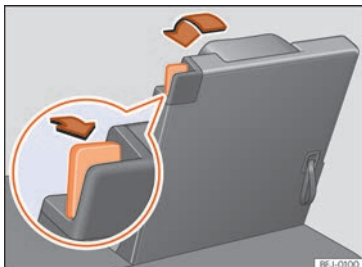

Fig. 126 Third row of seats: place in the cargo floor position.
- Remove any objects located in the footwell in front of and behind the seat »» ❶.
- Pull the unlocking lever »» Fig. 126 to its rearmost position to unlock the seat backrest.
- Move the seat down with your hand until it is completely against the frame of the seat »» ❷.
- When the seat is in loading floor position, do not let anyone travel in it (not even a child) »» ❸.
- Pull the cord on the backrest of the seat »» Fig. 126 to lift the backrest. **OR:** lift the backrest with your hand from the cabin.
- The red marking on the unlock lever »» Fig. 126 must not be seen.
- Make sure that the seat backrest is correctly engaged by tugging from it and pressing »» ❹.
- A red mark on unlock lever »» Fig. 126 indicates that the seat backrest is not engaged. If the back rest is locked correctly, the mark is not visible.